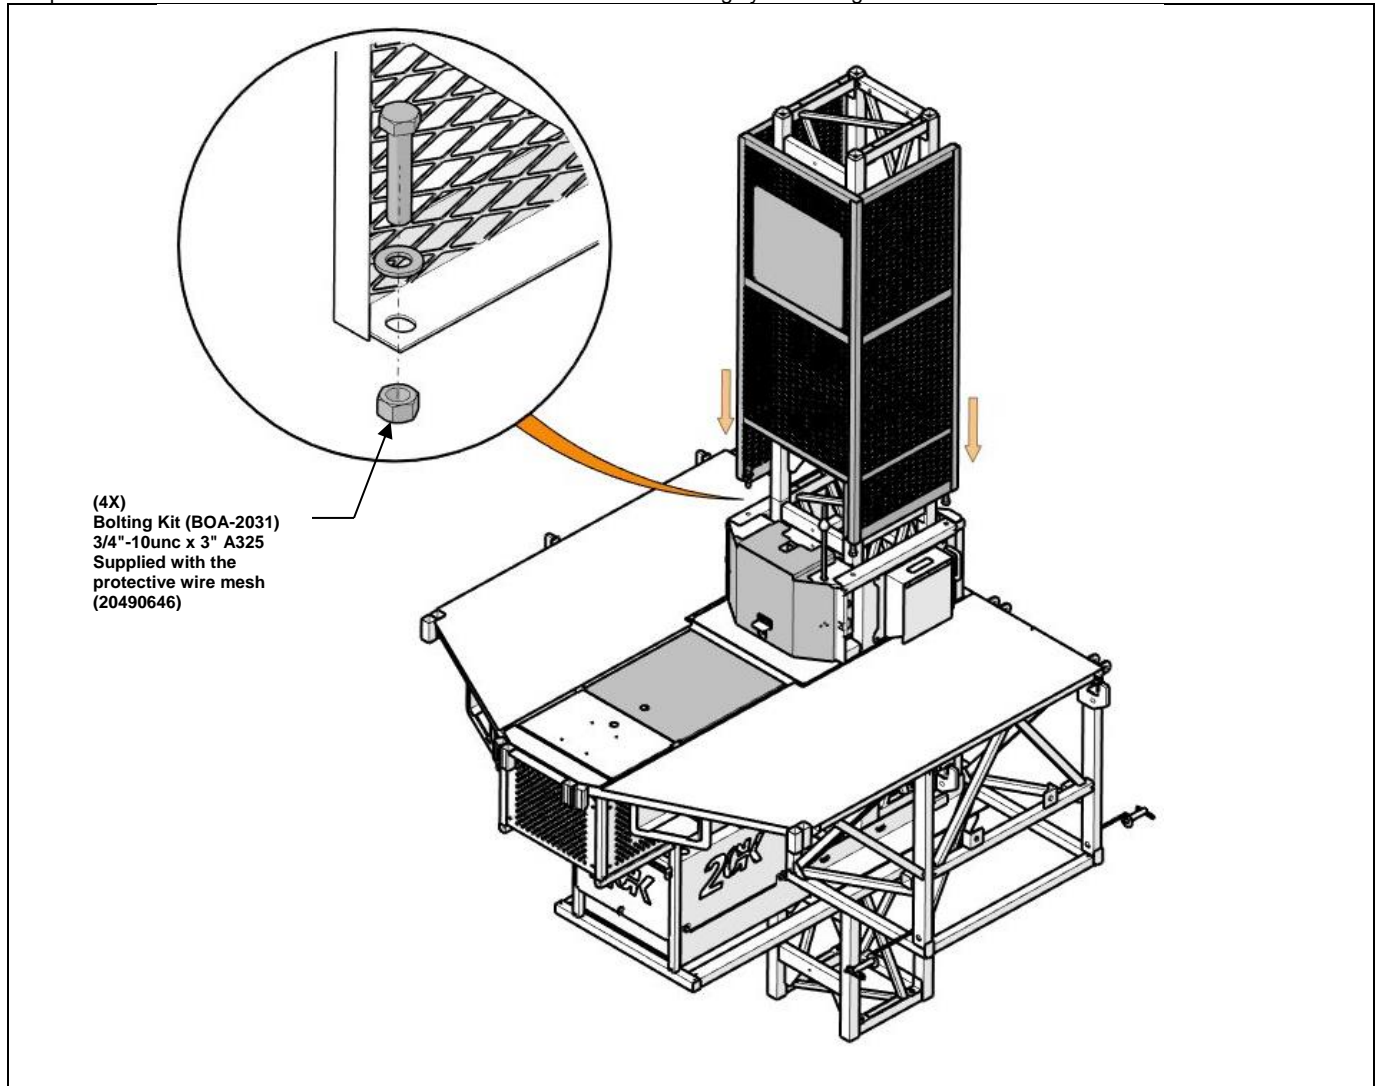

Figure 81 - protective wire mesh
- Finally lower the platform to the ground and install your bridge and extension sections in accordance with the installation instructions defined in **Chapter D**. Complete the platform installation (add fittings, guardrails and other remaining accessories...) and install the protective wire mesh on the lifting unit (See Figure 81).
- With the platform still at ground level, install your bridge and extension sections in accordance with the installation instructions in **Chapter D**. Complete the platform installation (add fittings, guardrails and other remaining accessories...) and install the protective mesh on the lifting unit (See **Figure 81**).
- Finally lower the platform to the ground and install your bridge and extension sections in accordance with the installation instructions defined in **Chapter D**. Complete the platform installation (add fittings, guardrails and other remaining accessories...) and install the protective mesh on the lifting unit (See **Figure 81**).
- With the platform at ground level, install your bridge and extension sections in accordance with the installation instructions in **Chapter D**. Complete the platform installation (add fittings, guardrails and other remaining accessories...) and install the protective mesh on the lifting unit (see **Figure 81**).
- Remove the protective wire mesh (see Figure 81).